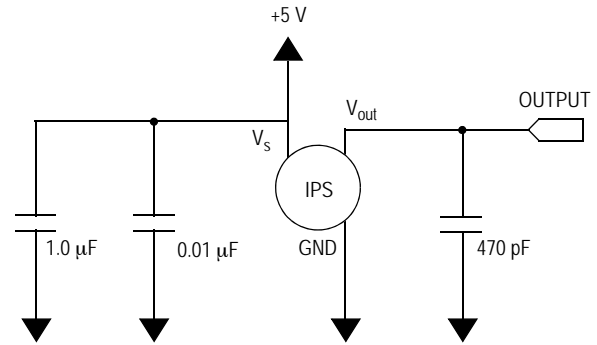
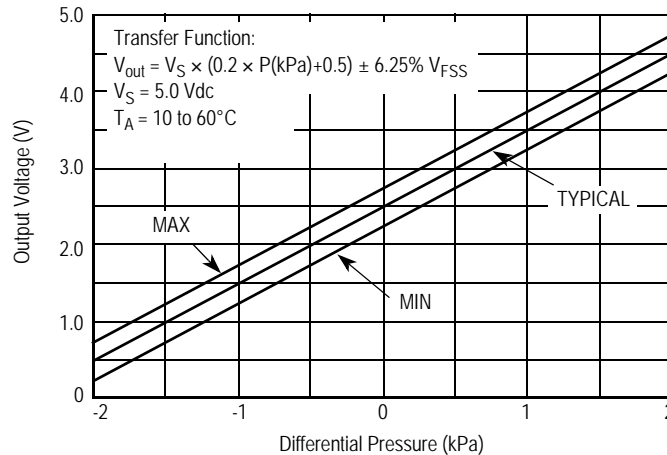

Figure 3. Recommended Power Supply Decoupling and Output Filtering (For additional output filtering, please refer to Application Note AN1646.)
Figure 4. Output versus Pressure Differential
**Table 2. Operating Characteristics** (VS = 5.0 Vdc, TA = 25°C unless otherwise noted. Decoupling circuit shown in Figure 3 required to meet specification.)
Figure 3 shows the recommended decoupling circuit for interfacing the integrated sensor to the A/D input of a microprocessor or microcontroller. Proper decoupling of the power supply is recommended.
Figure 4 shows the sensor output signal relative to pressure input. Typical, minimum, and maximum output curves are shown for operation over a temperature range of 10° to 60°C using the decoupling circuit shown in Figure 3. The output will saturate outside of the specified pressure range.